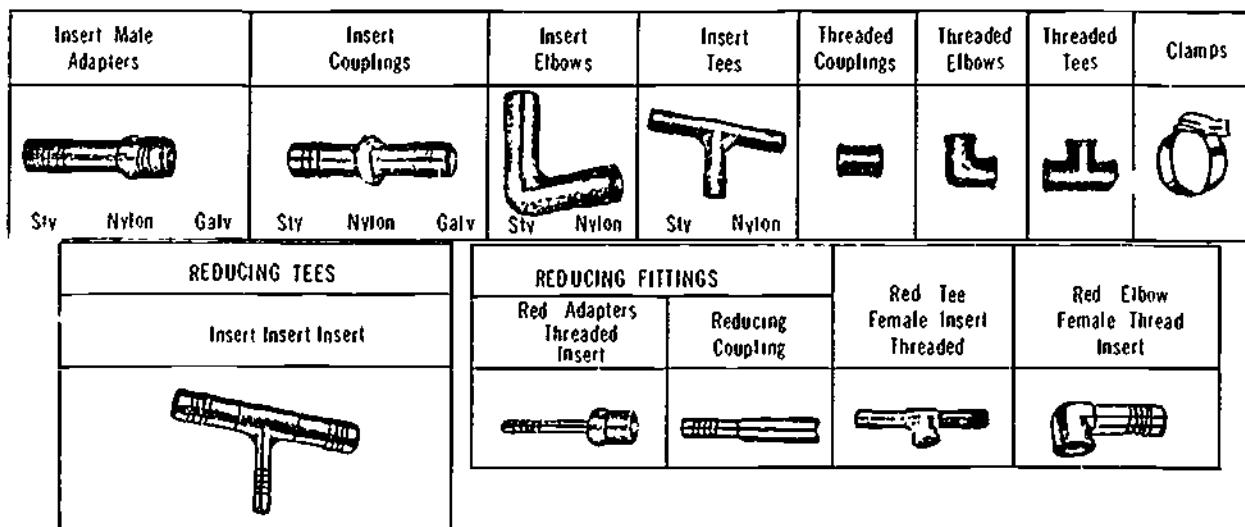

Figure 10-1. Insert Fittings and Clamps
- b) Figure 10-1 shows types of insert fittings and clamps used with polyethylene pipe.